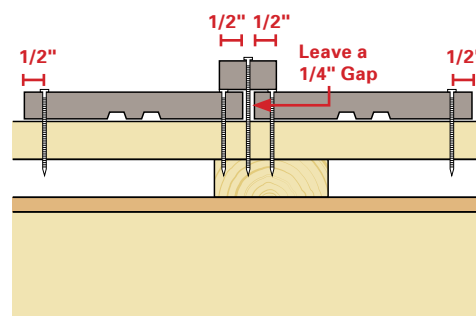

Fig. 18
- Nail in the center of the batten and between the two siding boards to avoid splitting the siding. *(See Figure 18)*